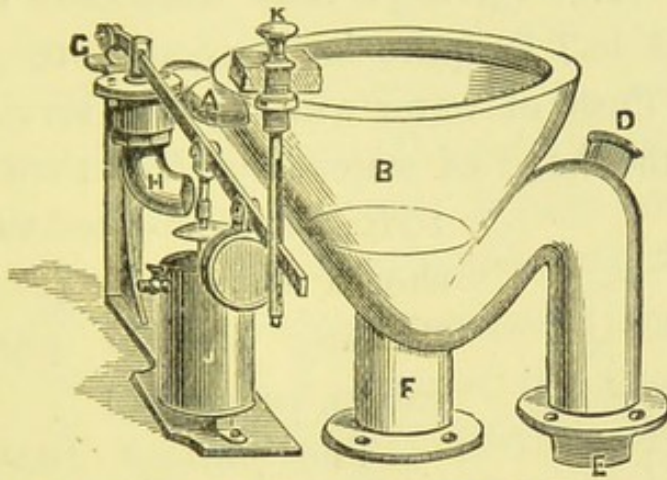

FIG. 83.—View of "Vortex" Closet with Valve and Regulator Apparatus.\*
(1) It can be supplied by the well-known *service-box* arrangement, where the cistern is directly over the closet, or within easy cranking distance, but the service-box should not be smaller than 9 in. by 6 in., and 6 in. deep, and the service-pipe should not be less than  $1\frac{1}{4}$  in. Service-box action.
(2) It can also be supplied by a *Valve and Bellows-regulator* arrangement, as shown in Fig. 83, but the size of the valve, H, is of great importance. A 2 in. valve, as shown at H, giving a clear water-way, in its smallest part, of  $1\frac{1}{8}$  in. full, is made to go with the closet, when the cistern which is to supply it is only 4 or 5 ft. above the seat. But when the cistern stands 6 ft. or 7 ft. above the Valve and Regulator.